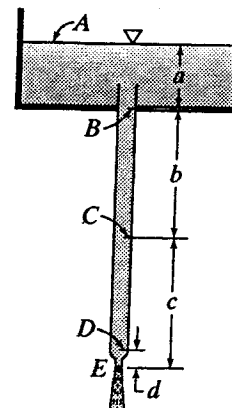

Figure X5.13.7
- 5.13.8 In Fig. X5.13.7 let  $a = 7.5$  m,  $b = c = 15$  m, and  $d = 300$  mm. All the losses of energy are to be ignored when the stream discharging into the air at  $E$  has a diameter of 80 mm. What are pressure heads at  $B$ ,  $C$ , and  $D$  if the diameter of the vertical pipe is 120 mm?